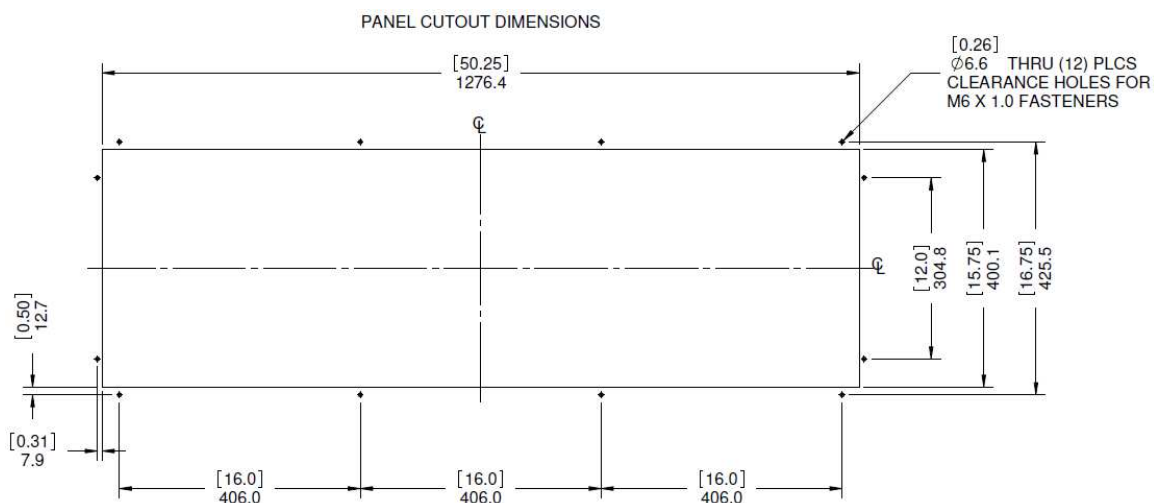

Figure 1. Panel cutout dimension of fixture ULF839VW Series
1. Mark a rectangle recessed opening in the booth panel where fixture is to be located as shown per customer's applications. Refer to Figure 1.